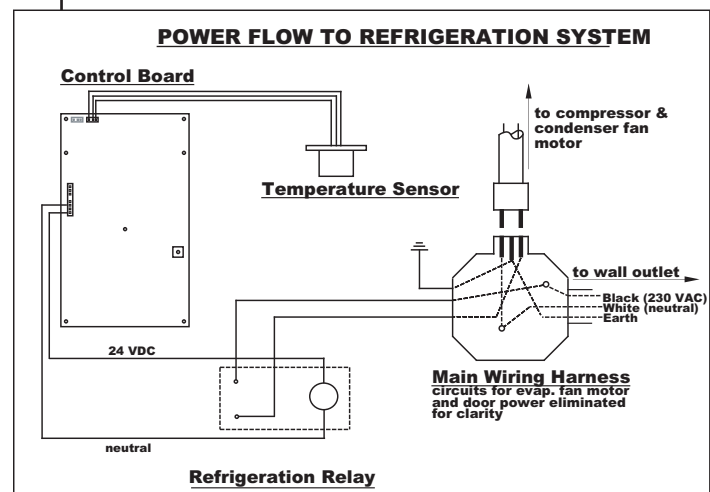

Figure 2.2. Refrigeration power flow.
**OPERATION:** The rising temperature in the cooling compartment is reported to the control board from the temperature sensor (see Figure 2.2). The control board registers the current temperature inside the vender's cabinet. When it rises equal to or above the pre-programmed cut-in temperature, the control board will then complete the circuit to the refrigeration relay to energise its coil (shown in Fig. 2.2). The refrigeration relay coil energises and closes the contact between the common and normally open positions (shown in Fig. 2.2). This allows power (230 VAC) to travel through the refrigeration relay switch and to the main wiring harness. The main wiring harness will power the unit immediately.
As the temperature drops, the temperature sensor reports this to the vender's main control board. When the temperature drops below the preset cut-out temperature, the control board will disable the refrigeration relay. This will break the refrigeration relay switch connection (shown in Fig. 2.2), thus cancelling power to the refrigeration unit.